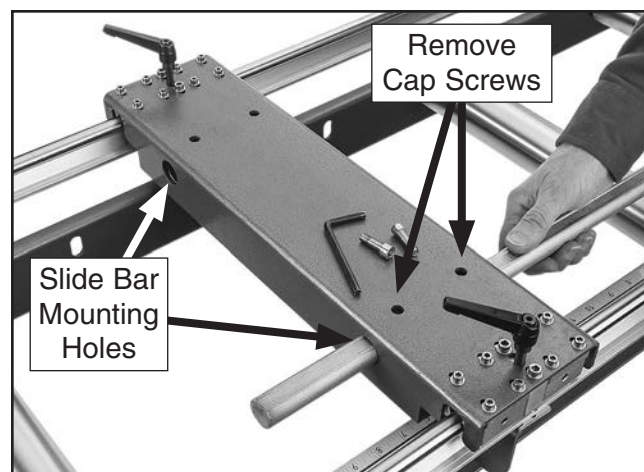

Figure 9. Repositioning or removing slide bar.
3. Slide bar/work stop can be mounted in either direction in either carriage mounting hole. To remove slide bar/work stop, remove (2) cap screws in carriage, as shown in **Figure 9**.